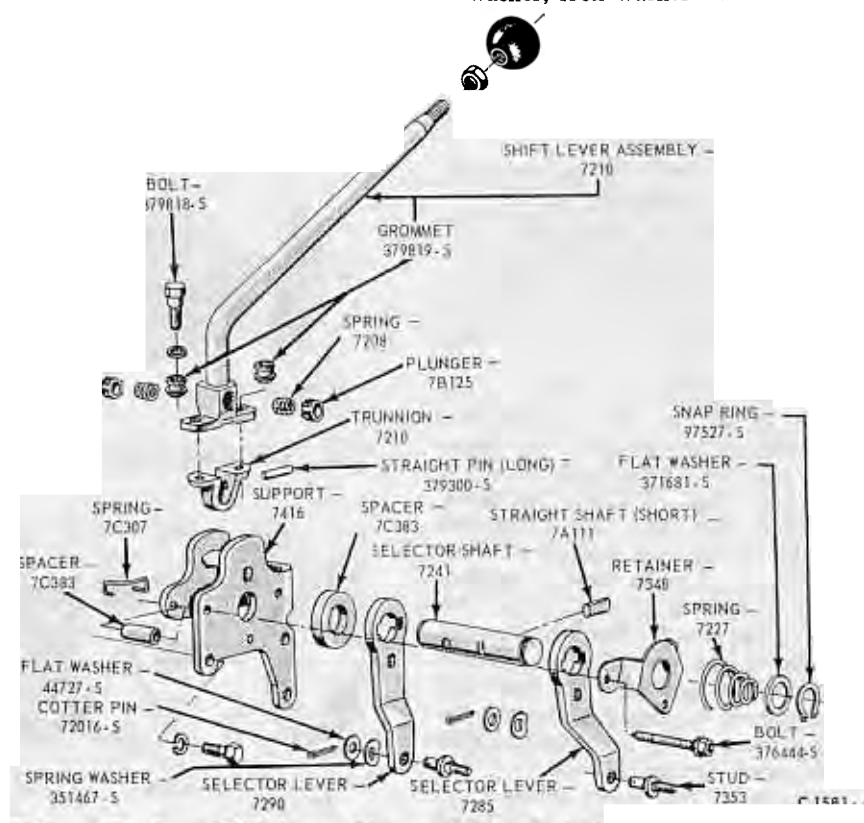

FIG. 13—Gear Shift Lever Disassembled—Typical
1. Remove the snap ring from the end of the selector shaft with pointed snap ring pliers (Fig. 13).
10. Install the levers and spacers on the shaft as shown in Fig. 13.